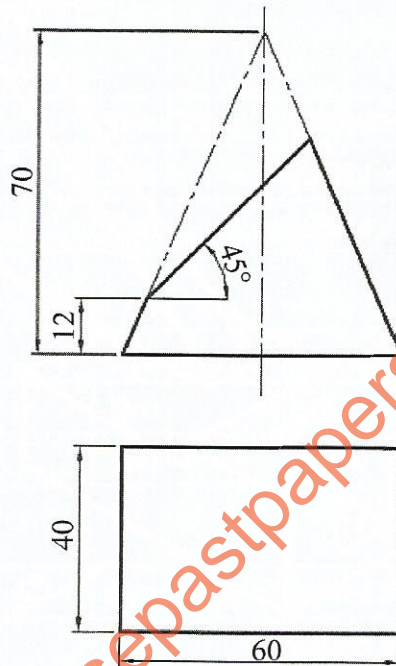

Figure 2
7. **Figure 2** shows an elevation and an incomplete plan of a truncated rectangular pyramid drawn in first angle projection.